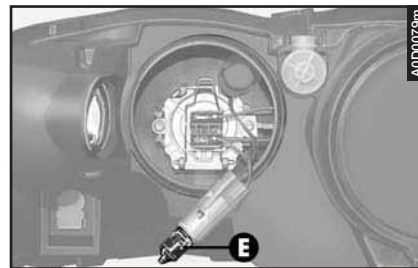

fig. 47
– Remove the bulb (**E-fig. 47**) from the bulb holder, pushing it slightly and turning it counter-clockwise.